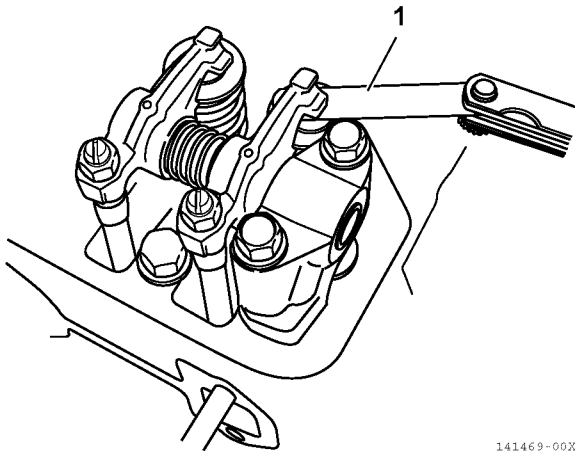

Figure 6-43
3. Insert a feeler gauge (1, **Figure 6-43**) between the rocker arm and valve cap, and record the measured valve clearance. (Use the data for estimating the wear.)